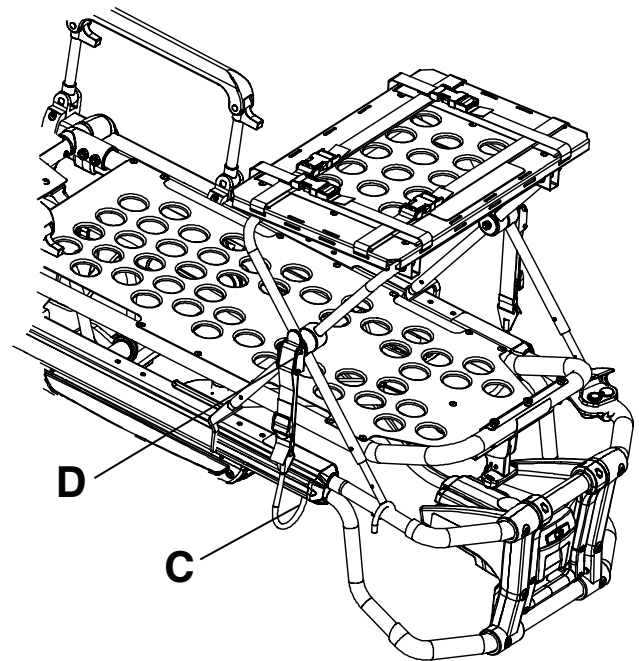
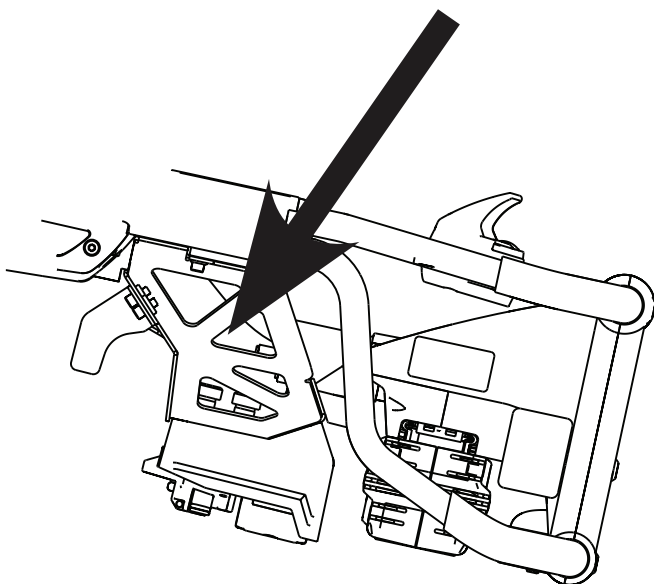

Figure 32 – Latch hook placement (Model 6506 shown)
Figure 33 – Tab (Model 6506 shown)
6. Place the latch hook (C) under the litter frame or foot end fastener and push the tab (D) up until it locks into place on one side with an audible click (Figure 32). Repeat on the other side. For **Power-LOAD** compatible cots, if equipped, you must lengthen and attach the straps to the foot end fastener (Figure 33).